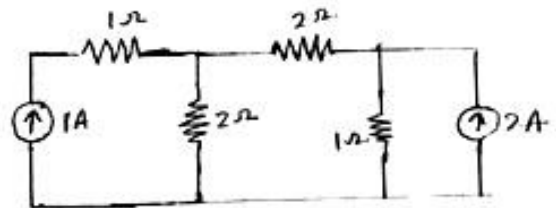

Fig 1.2
6. Determine the voltages at node 1 & 2 using nodal analysis in fig 1.2